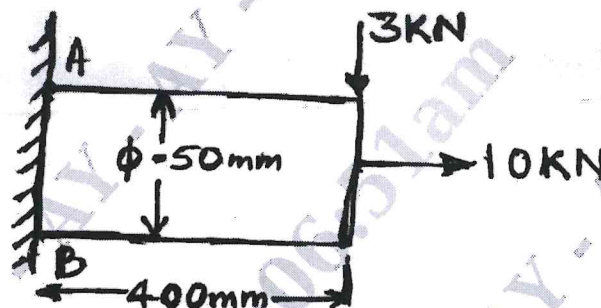

Fig Q1(c)
- c. For the member shown in Fig Q1(c), determine the stress induced at A and B in the member